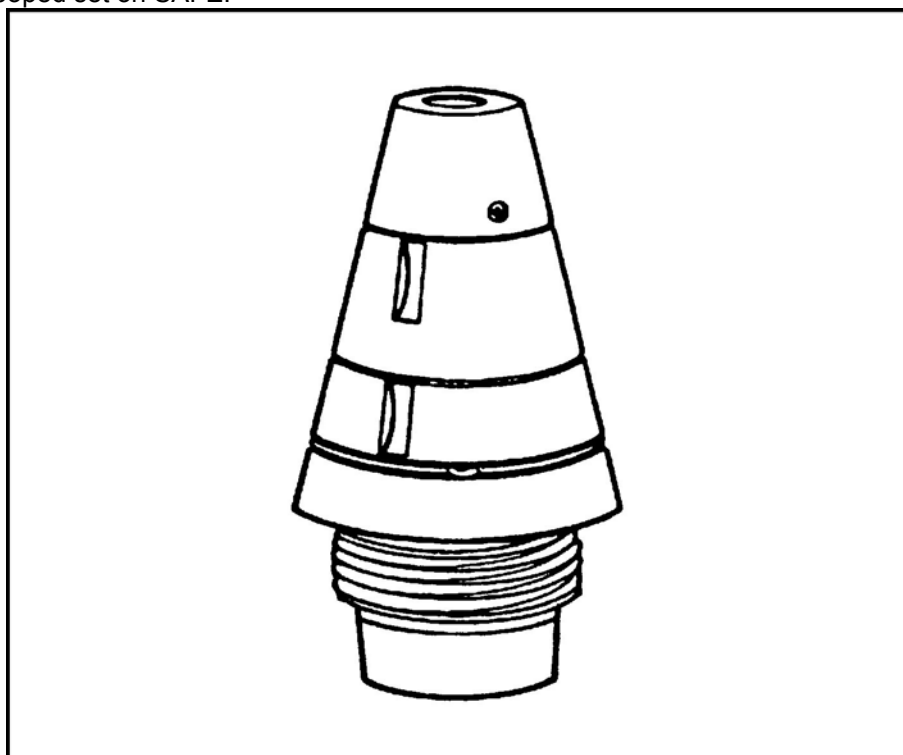

Figure 6. Mechanical time fuze, DM93.
- (3) When the fuze is set to the delay (D) function, the fuze functions 1/20th of a second after impact.
- b. The mechanical time fuze, DM93 (Figure 6), is found only on the illumination round. It is shipped set on SAFE.